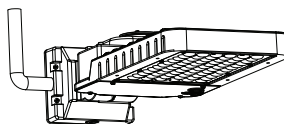

FIG. 20
6. Use side knockout hole for conduit installation (see **FIG. 20**).